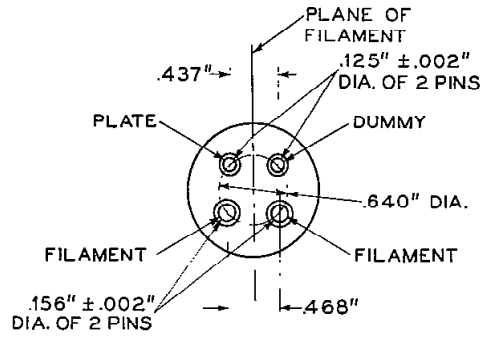

FIG. 2
**Mountings Positions**—Either vertical or horizontal. If mounted in a horizontal position the plane of the filament, which is indicated in Figure 2, should be vertical.